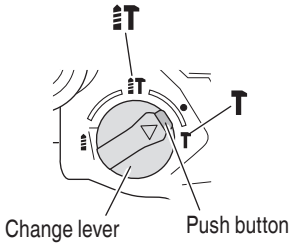

Fig. 24
- (1) Mount the bull point or cold chisel.
- (2) Press the push button and set the change lever to middle of $\frac{1}{2}$ T mark and T mark (Fig. 24).